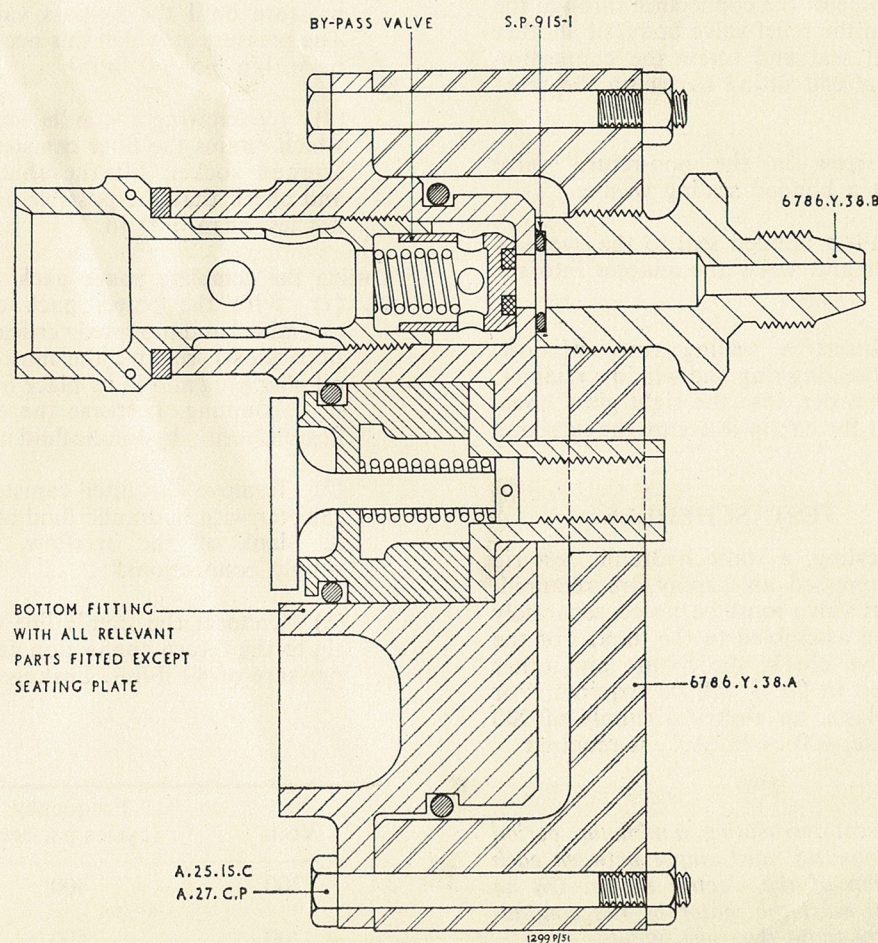

Fig. 3. Test fixture
(3) Before further assembly, apply a pressure of 6000 lb/in² to the supply adapter. Leakage is not permissible. Wire-lock each pressure pipe banjo bolt to the pipe.
(4) Ensure that a sealing ring is fitted to each end of the suction pipe, then insert one end of the pipe into the boss on the pump cover.
(5) Ensure that a sealing ring is fitted to the top of the cylinder, then lower the pump assembly into the cylinder. Insert the retaining bolts through the mounting flange, fit tab-washers to the bolts, and screw on the nuts. Lock the nuts with the washer tabs.
(6) To assemble the filter, ensure that the sealing ring is fitted to the shut-off valve seat, then insert the stem of the valve through the end of the seal carrying the sealing ring. Assemble the spring over the valve stem, fit the collar over the stem and insert the locking pin. Lock the pin by centre-punching once at each end.
(7) Insert the screwed socket into the bottom fitting. Insert the valve seat into the fitting to abut the socket. Rotate the parts as necessary to align the screw holes, then screw in the retaining screws. Lock the screws by centre-punching.
(8) Insert the spring into the by-pass valve and fit the valve into the screwed end of the valve housing. Position a bonded seal against the shoulder on the housing, screw the housing, complete with valve, into the bottom fitting and wire-lock the two together. Ensure that a sealing ring is fitted in the groove of the valve housing.
(9) The sub-assembly of the parts detailed in sub-para. (6), (7) and (8) is now to be assembled in test fixture 6786Y38A as shown in fig. 3 and tested as stated in para. 16.
(10) Dismantle the test fixture together with the adapter and its sealing ring from the sub-assembly.
(11) Secure the seating plate to the bottom fitting with the countersunk screws.
(12) Ensure that a sealing ring is fitted to the spindle, screw the spindle into the socket and fit the filter element over the spindle to rest on the seating plate.
(13) Position the spring housing over the spindle in the filter element, insert the spring in the housing and fit the canister, securing it by fitting the washer and wing nut on the end of the spindle. Tighten the wing nut and lock it to the spindle with the taper pin. Lightly rivet over the small end of the pin.
15. For testing, a static hydraulic test rig and a compressed air supply are required. The by-pass valve must be tested separately before being assembled to the filter. For the by-pass valve check, the fixture and other parts quoted in fig. 3 will be required. For functional tests, an electrical supply of 200 volts 3 phase, 400 cycles A.C. is required.
16. (1) Assemble the bottom fitting, complete with by-pass valve and shut-off valve, in the test fixture (as shown in fig. 3) so that the $\frac{5}{8}$ in. B.S.P. tapped hole is opposite the by-pass valve orifice.